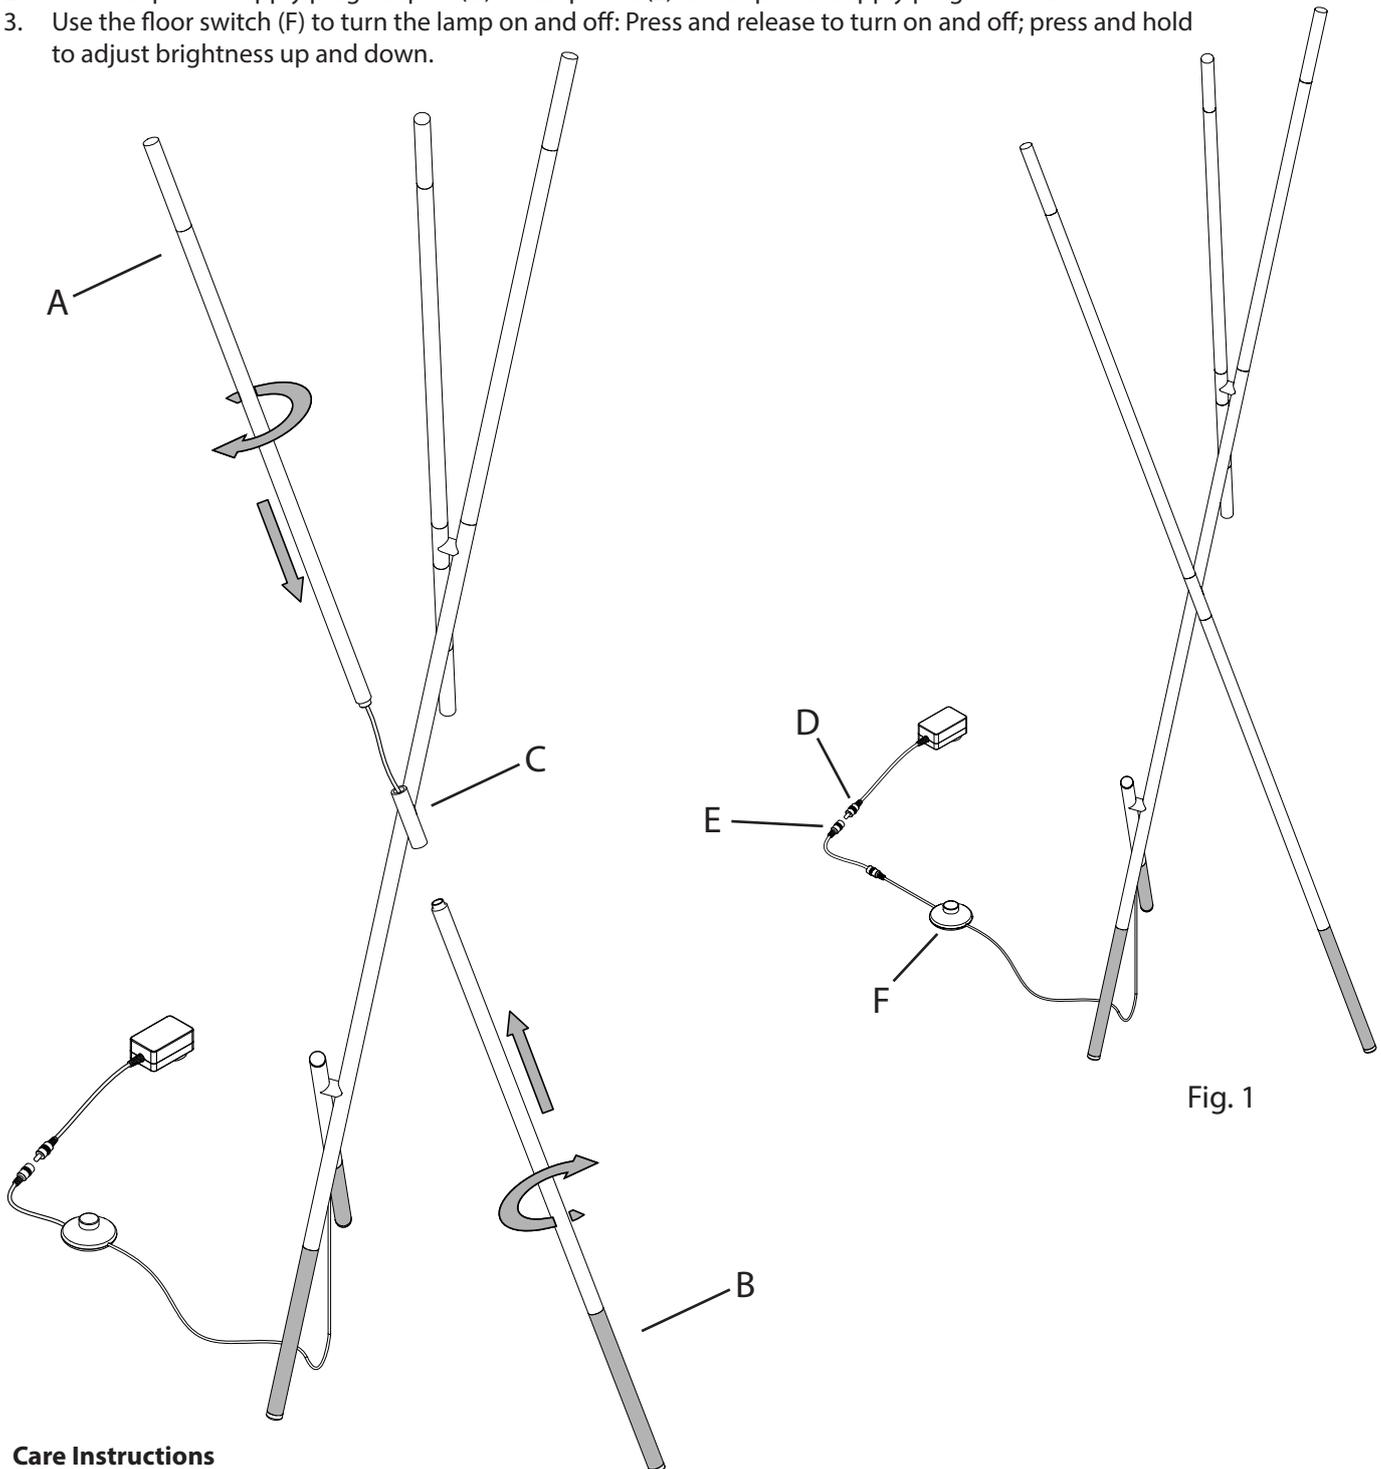

Fig. 1
1. Screw the hanging lit Arm (A) and the weighted Leg (B) into the middle Connector on the fixture (C) until tight. Fig. 1 shows assembled fixture.
2. Connect power supply plug adapter (D) to lamp cord (E). Insert power supply plug into wall outlet.
3. Use the floor switch (F) to turn the lamp on and off: Press and release to turn on and off; press and hold to adjust brightness up and down.